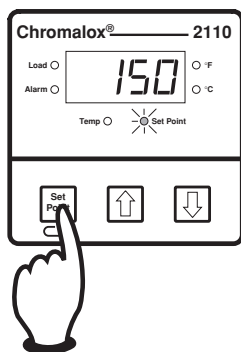

Figure 4.1
3. To adjust the set point on the Chromalox 2110 Temperature Controller, press and hold the Set Point button (see Figure 4.1). The Set Point light is illuminated and the set point value is displayed.